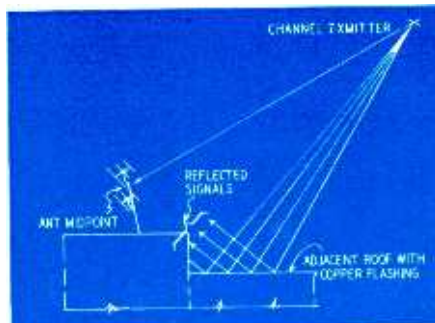

Fig. 2—A stacked Yagi beamed directly at the transmitter antenna helps reduce reflections from an adjacent rooftop.
**Solution 1**—This location was less than a half mile from the channel 7 transmitting antenna and approximately 750 feet lower than the height of the antenna as indicated in Fig. 1. The antenna survey men said that they held the antenna in the conventional horizontal position while making their rooftop investigation. A new survey was made with a stacked array that was tilted and effectively beamed for channel 7. Fig. 2 shows the antenna in its final position where it selected a ghost-free picture. Fig. 2 shows that with a stacked antenna tilted for direct pickup from channel 7 the signals from the station arrive in phase at the midpoint of the stacked antenna. Reflected signals from the copper flashing of the adjacent roof are first induced into the lower section of the stacked array and then into the upper section so they arrive out of phase at the midpoint of the antenna and tend to cancel or at least are reduced to a low enough level